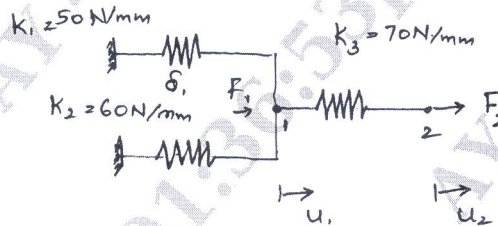

Fig.Q3(a)
- For the spring system shown in Fig.Q3(a) using principle of minimum potential energy. Determine the nodal displacement. Take $F_1 = 75N$ and $F_2 = 100N$.